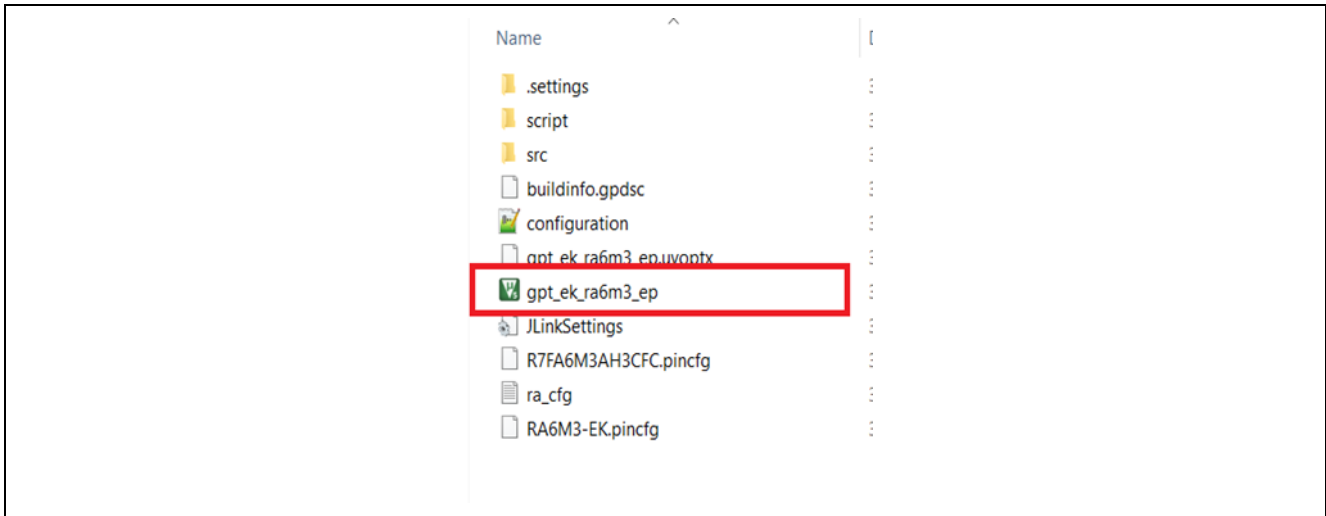

Figure 13. Opening the Keil Project
2. Open the Keil project by double clicking the μ Vision project file as shown in Figure 13.